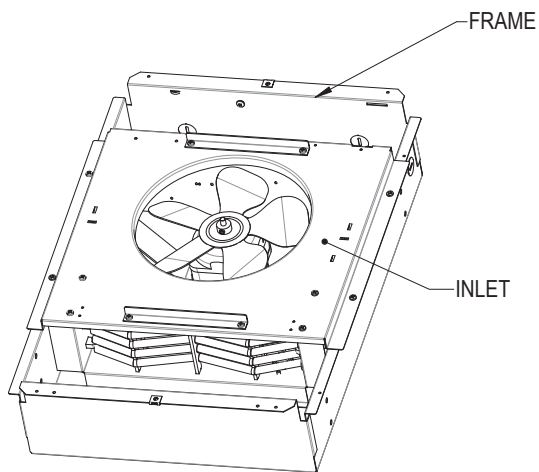

Figure 5
3. Remove the inlet of the frame (see figure 5) by unscrewing the four (4) screws.
6. Replace the inlet, make the required electrical connections. Insert the sleeve surface into the grille and replace the four (4) screws removed previously (see figure 5).